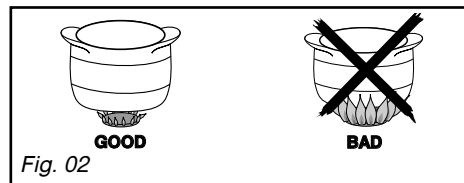

Fig. 02
– Adjust the flame ring so that they do not extend beyond the edges of the cookware (Fig. 02).